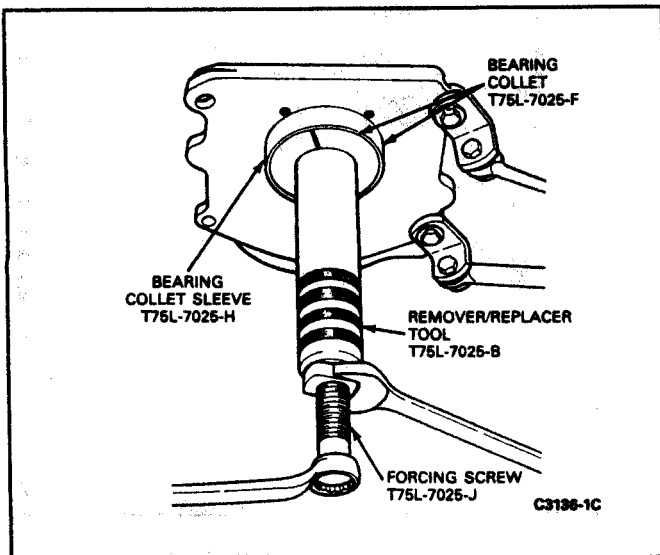

FIG. 7 Removing Output Shaft Bearing
9. Install Tools T75L-7025-B, F, H, and T84T-7025-B on the output shaft and over the output shaft bearing (Fig. 7). Remove the output shaft bearing.